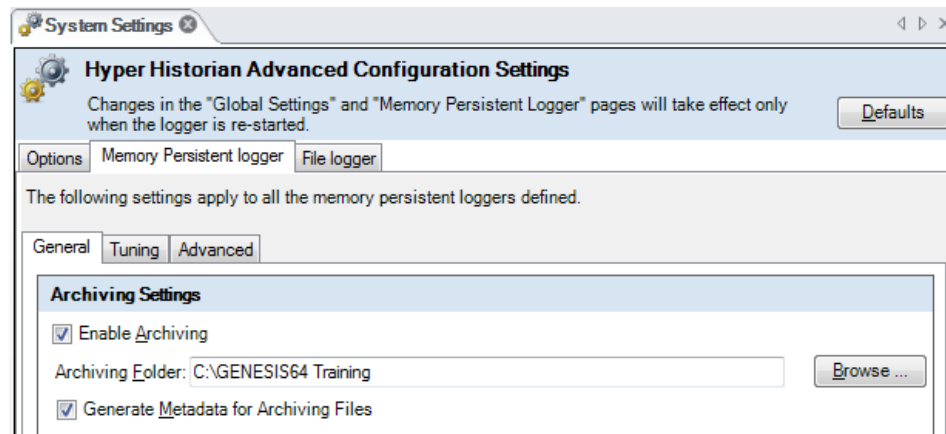

Figure L5.1 - Enable Archiving
5. You can also check the **Generate Metadata for Archiving Files** option. Metadata can help you to understand what is in the archive file when you need to restore it. See Figure L5.1 for an example of the configuration.